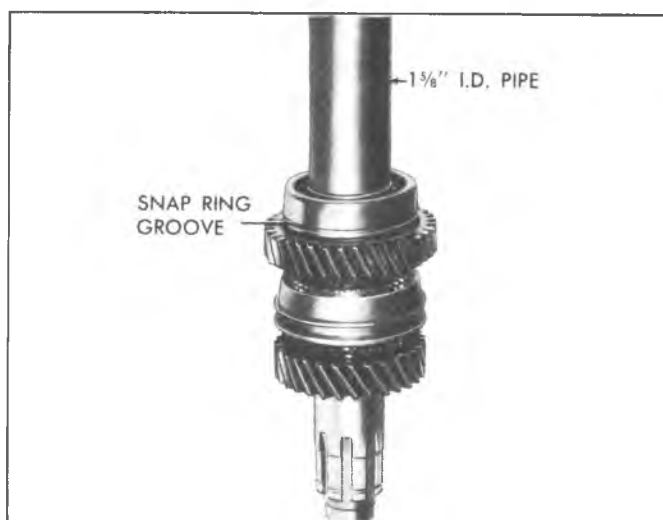

Fig. 13B-Installing Rear Bearing
4. Install the first speed gear (with hub toward front) and using 1 5/8" I.D. pipe cut to a suitable length, press on the rear bearing (fig. 13B).